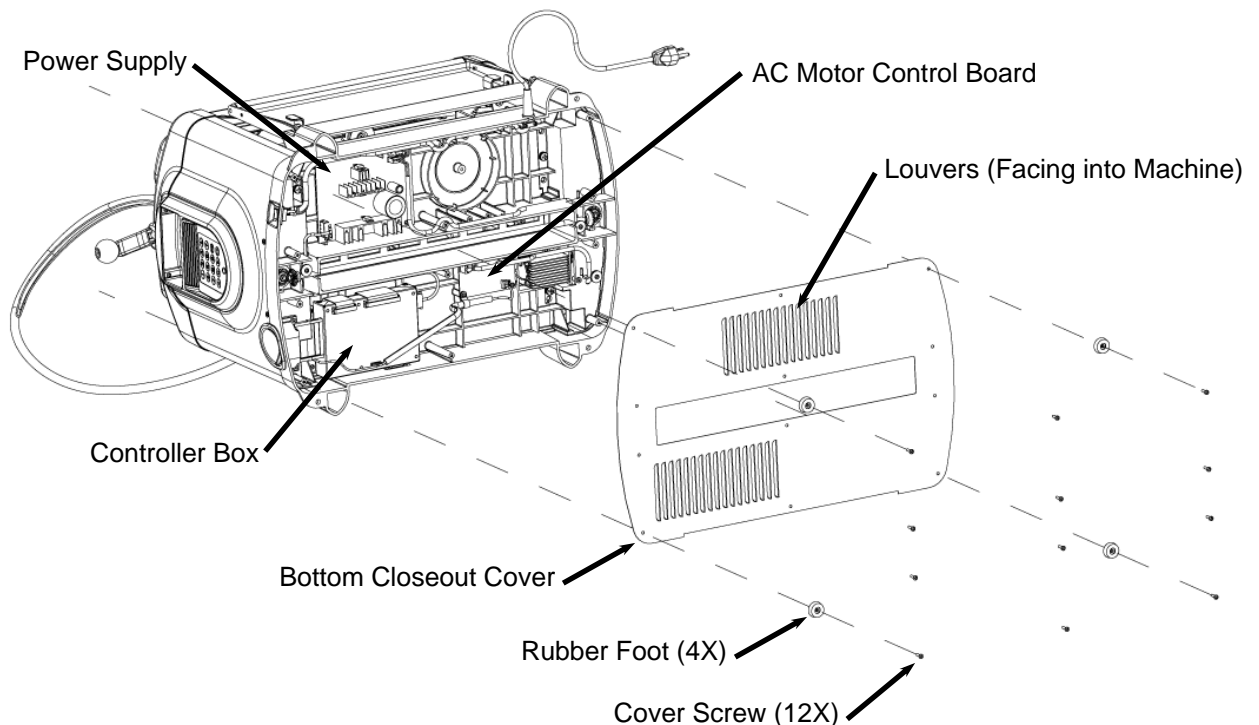

FIGURE 1: REMOVAL OF THE BOTTOM COVER
4. **Replace the bottom cover.** Replace the metal cover with the louvers pointing into the machine (see Figure 1). Insert and tighten the 12 screws. The four rubber feet are placed at the corners of the machine.